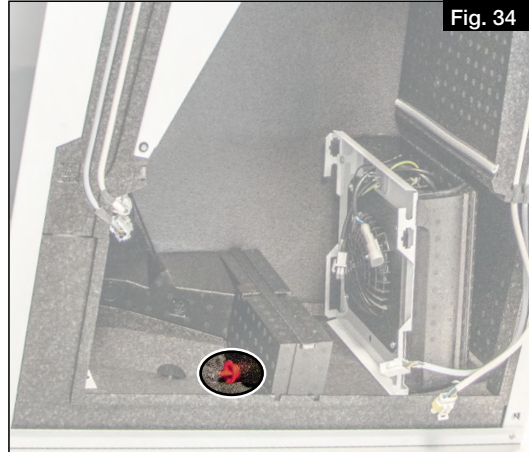

Fig. 34
- ① **If the cold recovery system is activated, the plug at the bottom of the unit must be removed (see Fig. 34) to ensure the condensate drainage (cf. also chapter 4.3 „Install ball siphon“, page 12).**